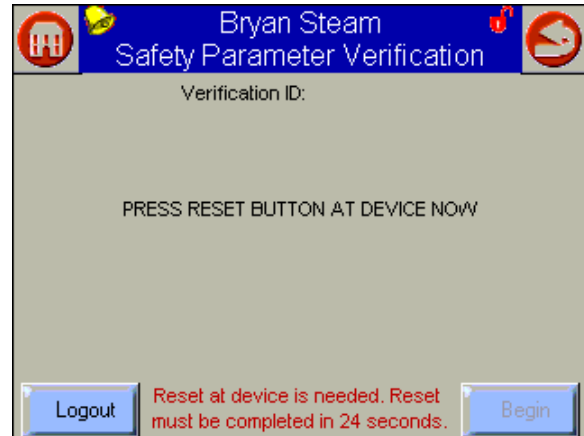

Figure 20 Safety Parameter Reset
After all safety parameter blocks have been confirmed, the user is asked to press and hold the reset button, (Figure 3 item 7), on the boiler to complete the safety configuration session (Figure 20).